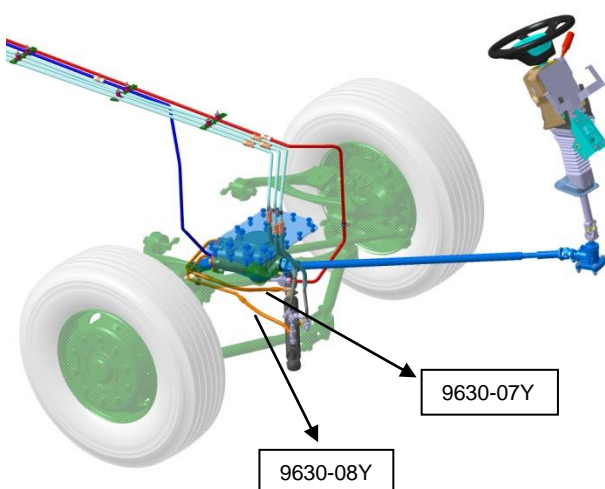

Figure-3
4. The 9630-07Y and 9630-08Y numbered steering hoses (shown with orange color) will be replaced (See Figure-3 and 4)